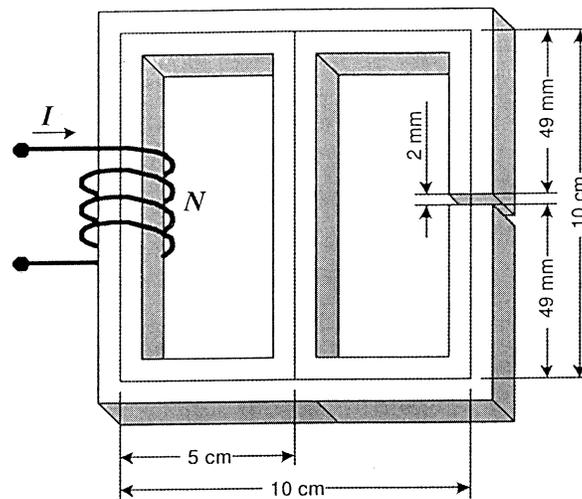

Figure 5: Magnetic core for Question 5
A magnetic core is shown in Figure 5. Assume that the core cross section is uniform and equal to 100 mm^2 , relative permeability $\mu_r = 2000$, number of winding turns $N = 100$ and current $I = 1 \text{ A}$ ($\mu_0 = 4\pi \times 10^{-7} \text{ H/m}$).
- Draw the analog circuit representation of the magnetic circuit from Figure 5.